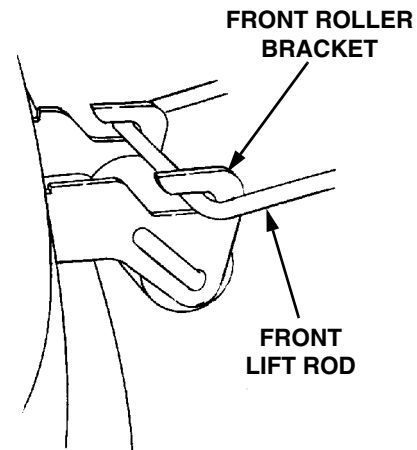

Figure 49
5. While holding the front lift rod up, slide the mower deck forward until the rod aligns with both front roller bracket slots. Lower the lift rod into the front roller bracket slots and slide the deck rearward to engage the lift rod fully forward in the slots of the deck front roller bracket (See Figure 49).